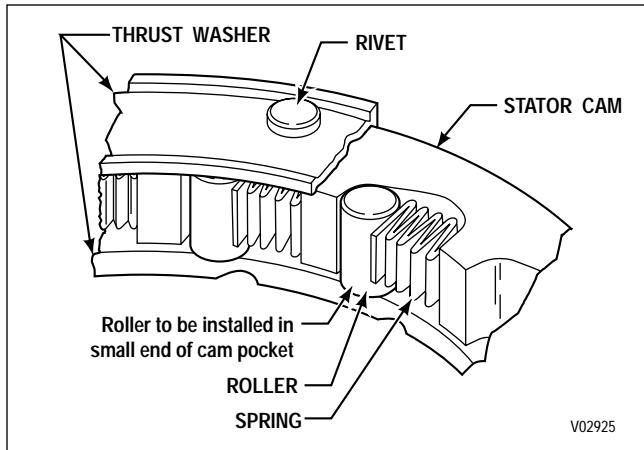

**Figure 6–11. Installing Freewheel Roller Race (AT 543)**
(8) Grasp the stator and cam assembly as shown in Figure 6–7 and install it onto the converter pump hub. Hold the roller race firmly to retain it in position.
(9) Install the converter turbine assembly (Figure 6–6).